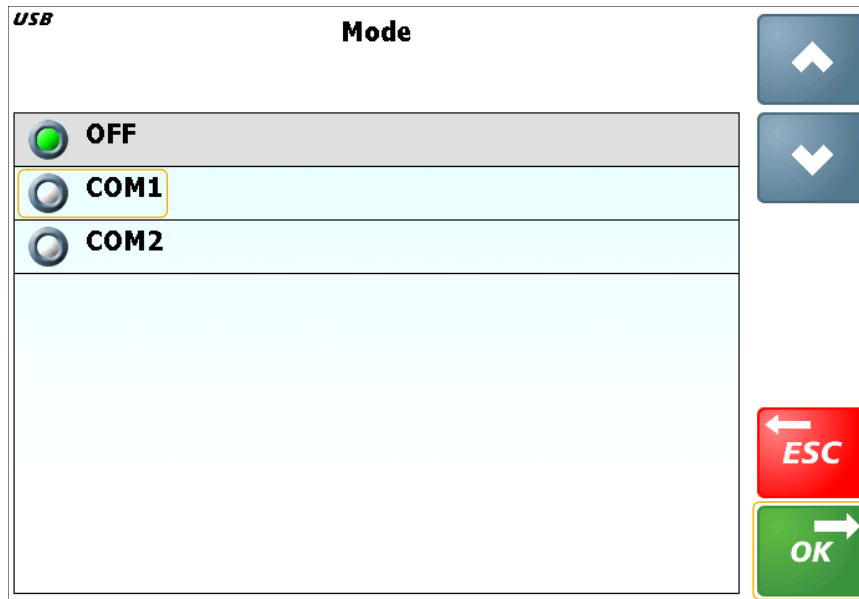

Figure 2-5: Com Port Mode
- d. Select **Edit** on the **GPS Options** screen to open the **Mode** dialog (Figure 2-5 on page 2-4).